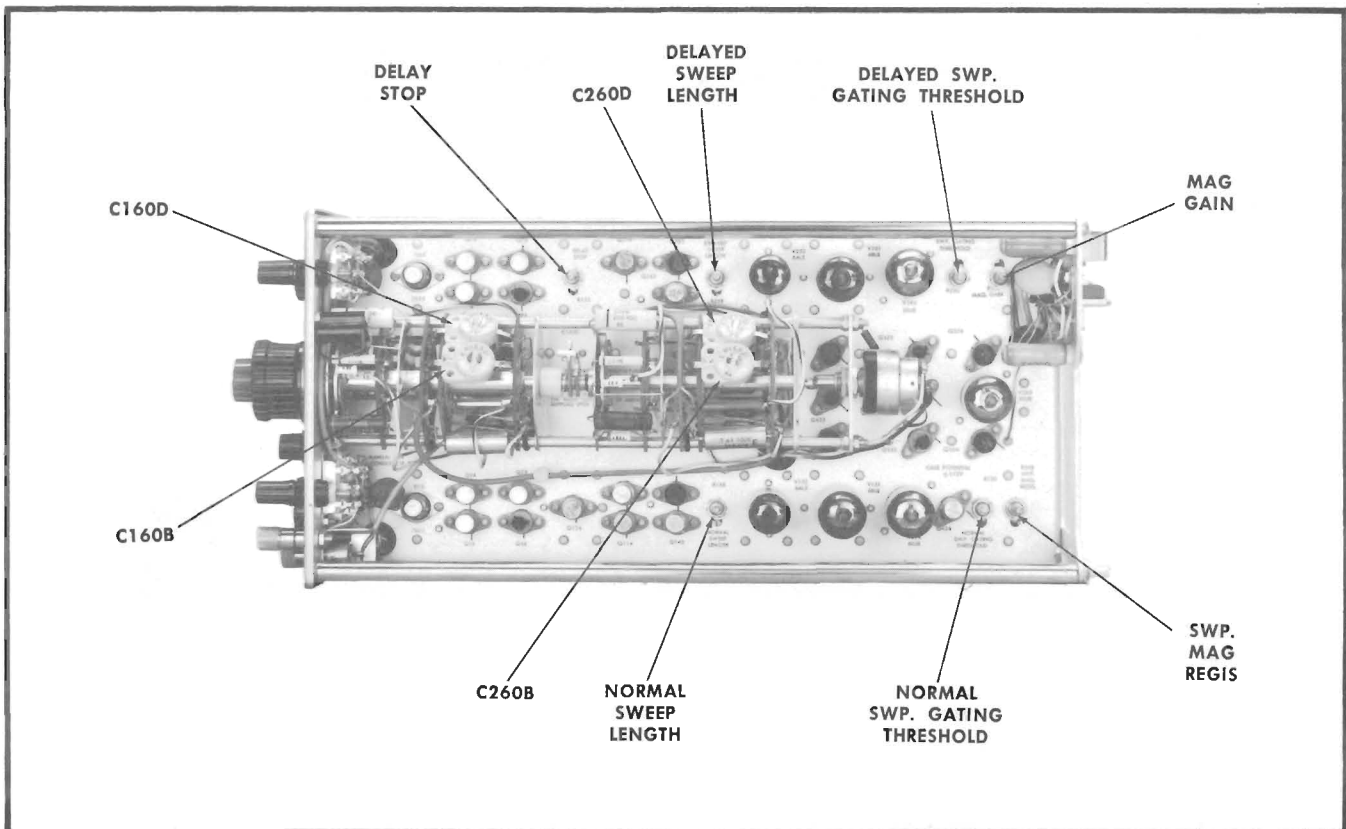

Fig. 5-4. Type 3B15, right side view.
- a. Use the same setup as in step 4, and adjust NORMAL SWEEP LENGTH R168 (see Fig. 5-4), for 10.5 major graticule divisions of horizontal deflection.
- c. Adjust DELAYED SWEEP LENGTH R268 (see Fig. 5-4), for 10.5 major graticule divisions of horizontal deflection.
- d. Pull the 10 $\times$  MAG switch out and adjust MAG GAIN R335 (see Fig. 5-4) for one large time mark every 10 major graticule divisions and 1 small time mark every 1 major graticule division.
- c. Push the 10 $\times$  MAG switch in and adjust SWP MAG REGIS R368 (see Fig. 5-4) so the first time mark again falls on the graticule centerline.
- c. Adjust DELAY STOP R435 (see Fig. 5-4), so the intensified part of the display starts at the 2nd 100  $\mu$ sec marker to the right of the 11th 1 msec marker.
- b. At 10  $\mu$ SEC, adjust C260D, and at 1  $\mu$ SEC, adjust C260B (Fig. 5-4).